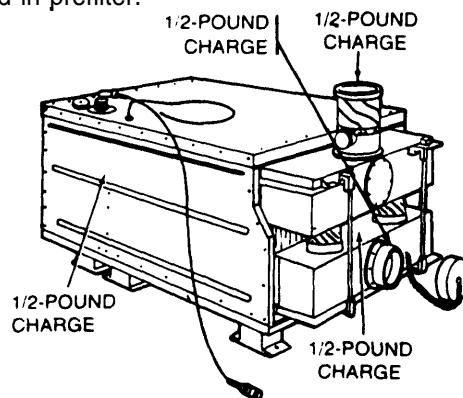

Figure 3-22. Explosive Charge Locations for M18 Gas-Particulate Filter Unit - M10 Collective Protection Equipment (HAWK).
- (1) M18 gas-particulate filter unit (fig 3-22). Place charges directly below vaneaxial fan, in inlet plenum, on center of lower exhaust plenum, and in prefilter.